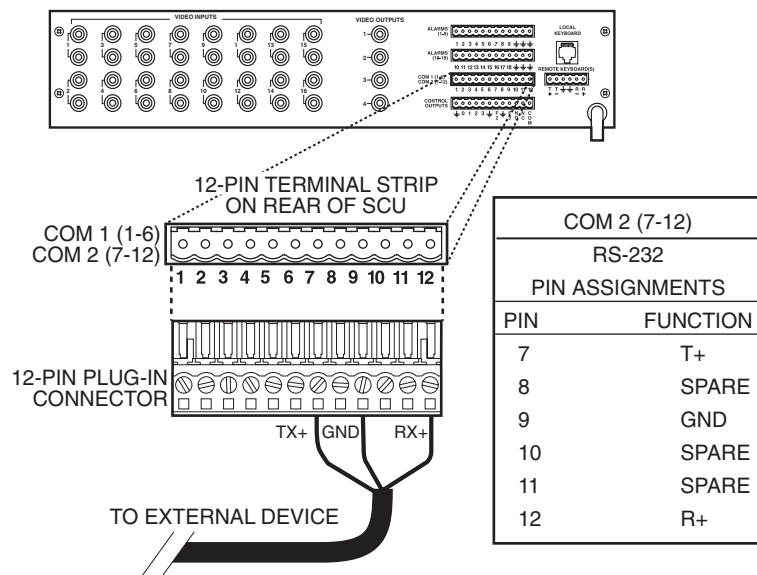

Figure 17. Connecting an RS-232 Interface
- If you require an RS-232 port interface, connect wires from the RS-232 device to the COM 2 terminals at the back of the SCU. Refer to Figure 17.